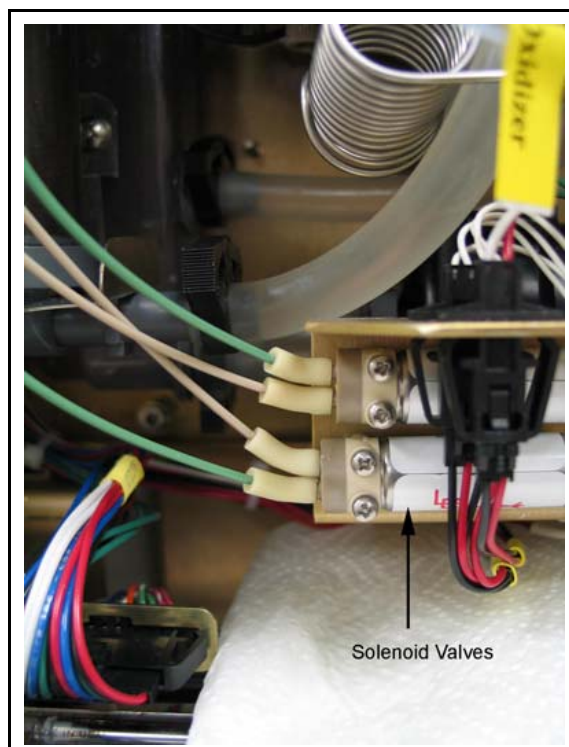

Figure 41: Preparing to Disconnect the Tubing from the Solenoid Valves
14. Follow the piece of tubing with the obstruction down to the solenoid valve. (See Figure 41.)